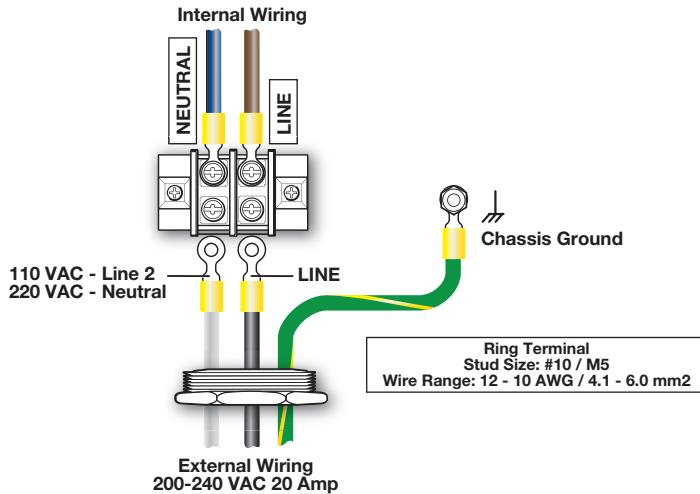

Figure 46. Power Connection and Cable and Ring Specifications
- Ensure that the replacement wiring is in accordance with the electrical code for the country or region where installed and the wiring color code in force for the installation site. See the wire and connector specifications in **figure 46** on page 88.
- Assurez-vous que le câblage de substitution installé soit conforme aux réglementations en matière d'électricité du pays ou de la région, et aux codes couleurs en vigueur dans le lieu d'installation. Consultez les spécifications du câble et du connecteur sur la **figure 46**, page 88.
8. Gently pull the ground cable through the rubber grommet into the power distribution box (②).
9. Unscrew the cable clamp on the power distribution box (③). Gently pull the exterior cable free of the power distribution box.
14. Connect the terminal lugs on the replacement cable to the terminal block inside the matrix switcher power distribution box (see figure 46 on the next page).
- NOTE:** Figure 46 also specifies the wire gauge and ring terminal and ground stud sizes.